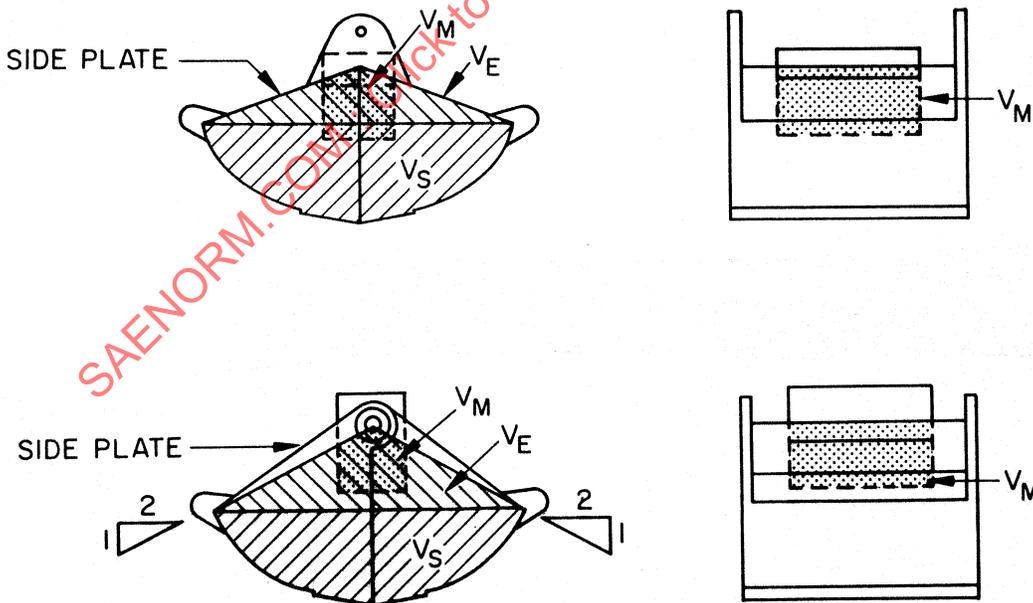

FIGURE 3—CLAM BUCKET RATED CAPACITY
3.4 Clam Bucket—SAE rated capacity is the volume of the material after it has been struck using the contour of the back band and side plate, providing the side plates do not have a slope exceeding 2:1 (see Figure 3).